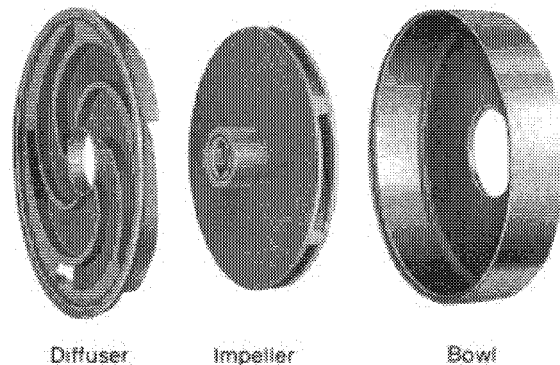

FIGURE 2
6. Loosen set screw in coupling hub (233) and remove hub and key (400) from stub shaft (380). C frame coupling is removed directly from pump shaft.
7. Loosen bolt (317U) so that discharge head (152) can turn in pump foot (131). Do not remove pump foot at this time.
8. Slide a heavy bar or pipe through the frame being careful not to let the bar contact the stub shaft (380). Place a wrench on the discharge head. Unscrew the discharge head until casing (100) is loose. Threads are right hand. Do not completely unscrew casing. A strap wrench may be utilized to prevent the casing from turning.
9. Set pump in a vertical position, resting on the frame (228 or 228A). Remove discharge head (152) and pump foot (131). Unscrew and remove casing (100) from casing adapter (108). The casing must be removed vertically so that the pump shaft is not bent. The total overhead clearance required will be the total pump length, less motor, plus the length of the casing (100).
10. Remove the double shaft nuts from shaft (122). Remove sleeves (157). Mark all parts for reassembly.
11. Complete stages, consisting of bowl (258), impeller (101), and diffuser (150) (Figure 2) may now be slid off the shaft and disassembled for inspection and/or replacement. All intermediate bearings